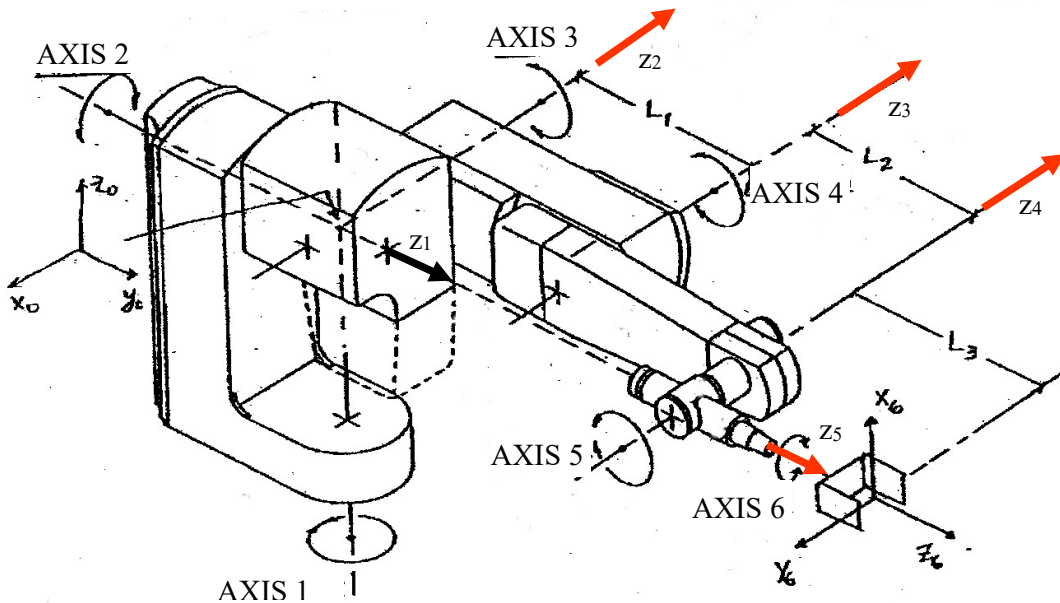

Figure 1
1. Figure 1 shows the schematic diagram of the Intelledex Robot Model 605T. This robot is a six-axis manipulator consisting of all rotational joints with axes 1, 2 and 3 always co-intersecting at a common joint. (Axis 6 intersects at the same co-intersection point only at the configuration shown in Fig. 1.)
- The values of the six joint coordinates ( $[\theta_1 \ \theta_2 \ \theta_3 \ \theta_4 \ \theta_5 \ \theta_6]$ ) for the robot at the configuration shown in Fig. 1 are  $[0 \ -90^\circ \ 90^\circ \ 0 \ -90^\circ \ 0]$ .
- c. If at the configuration shown in Figure 1, axis 2 has a joint motion range of  $\pm 115^\circ$ , determine the joint motion range in terms of  $\theta_2$  (joint variable for 2nd joint, assigned according to the Denavit-Hartenberg convention, item a above.).